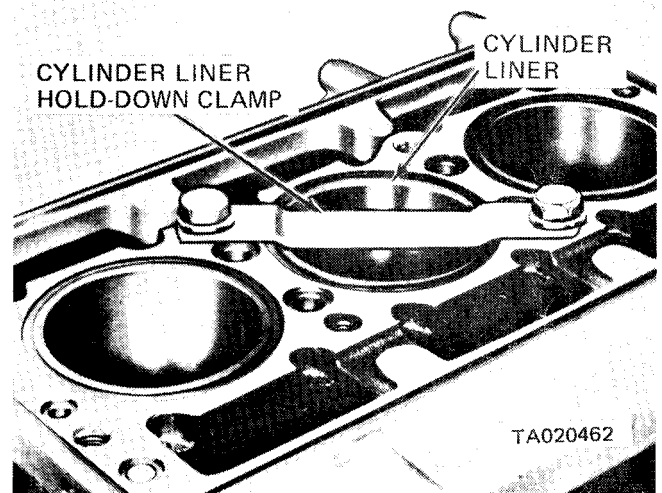

Figure 3-144. Cylinder liner clamped in place.
(c) Clamp the cylinder liner in place as shown in figure 3-144. Refer to table 1-1 and measure the distance from the top of the liner flange to top of the block with a dial indicator.
(e) Remove hold-down clamp (fig. 3-144) and cylinder liner from the block.
3. If any of the pistons and liners are already in the engine, use hold-down clamps (fig. 3-144) to retain the liners in place when the crankshaft is rotated.
6. Remove the liner hold-down clamps (fig. 3-144).